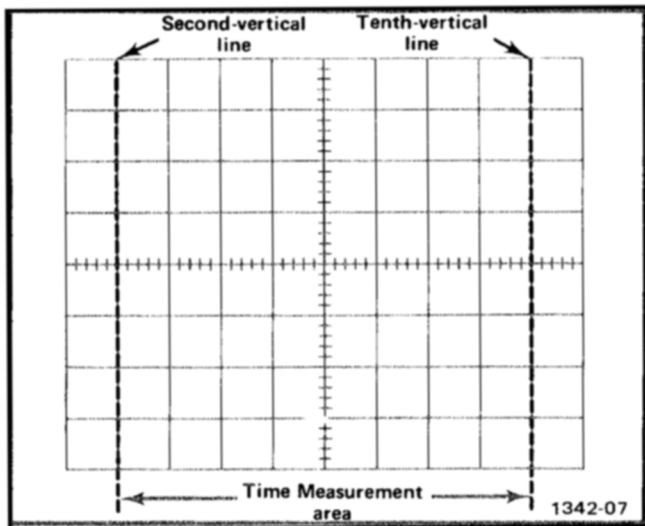

Fig. 2-6. Area of graticule used for accurate time measurements.
When making time measurements from the graticule, the center eight divisions provide the most linear time measurements (see Fig. 2-6). Position the start of the timing area to the second vertical line and adjust the TIME/DIV OR DLY TIME switch so the end of the timing area falls between the second and tenth vertical lines.
5. Set the TIME/DIV OR DLY TIME switch to the fastest sweep rate that displays less than eight divisions between the time measurement points (see topic entitled "Time Measurements" and Fig. 2-6).